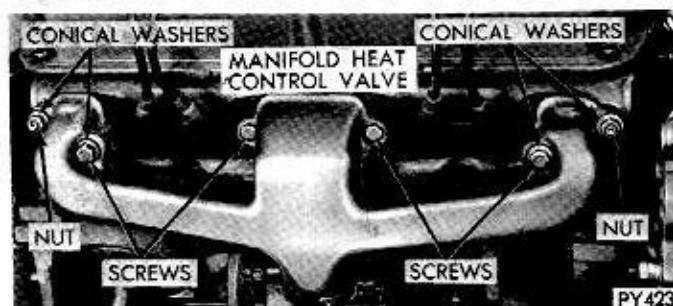

Fig. 10—Installing Exhaust Manifold—318 Engine
(1) Position two outboard arms of manifolds on the two studs on cylinder heads, using new gaskets. Install conical washers and nuts on studs (Fig. 10).
(2) Install two screws and conical washers at inner ends of outboard arms of manifold. Install two screws without washers on center arm of manifold (Fig. 10). Tighten screws and nuts, starting at center arm and working outward, to 15 foot-pounds.
(3) Assemble exhaust pipe to manifold, and secure with bolts, nuts and washers. Tighten to 24 foot-pounds.